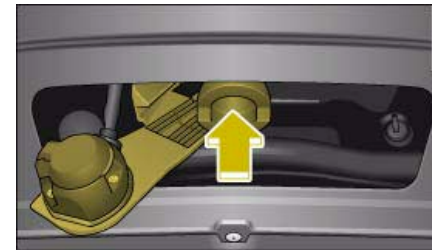

Fig. 237 Socket (folded down)
- Check that the mounting for the towing bracket, which will now have become visible -arrow- ⇒ fig. 237, is free of dirt, and clean if necessary ⇒ .